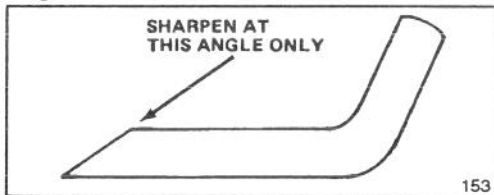

Figure 20
6. SHARPENING BLADE—Using a file, sharpen top side of blade and maintain original cutting angle (Fig. 20). The blade will remain balanced if the same amount of material is removed from both cutting edges.